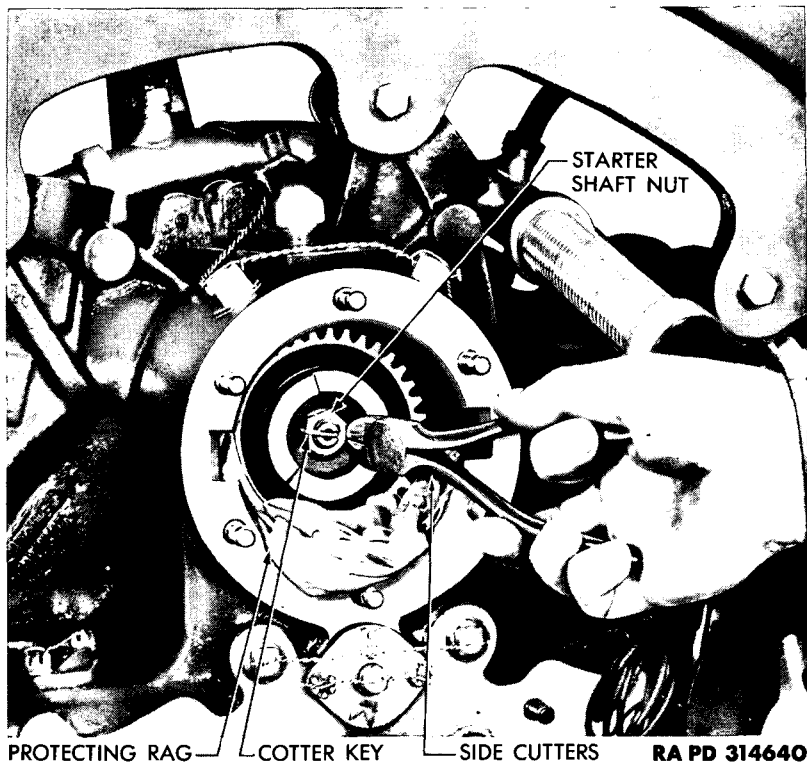

Figure 52 – Removing Cotter Pin from Starter Shaft Nut
n. Loosen Starter Shaft Nut. Remove cover from starter opening (par. 7 i). Insert cloth in opening under starter shaft to prevent cotter pin or pieces of the cotter pin from dropping into rear crankcase section. Pull cotter pin from starter shaft nut (fig. 52). Break loose starter shaft nut. It is much easier to loosen starter shaft nut at this time. Retighten nut fingertight. Remove cloth, and reinstall starter cover. **NOTE:** *This operation is necessary only when the crankcase sections are to be separated.*
(1) REMOVE REAR CYLINDER ATTACHING NUTS. Cut and remove